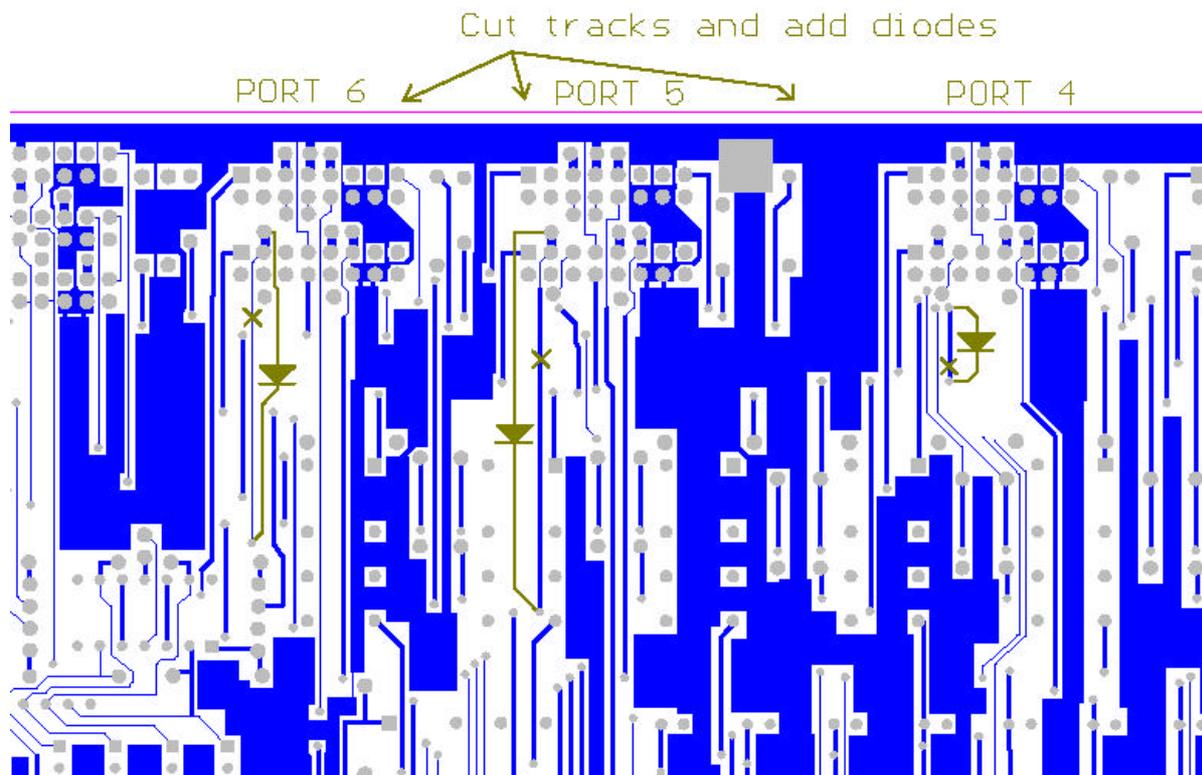

Fig 3.
11. On the bottom of the A800-SIM3a PCB, cut the three tracks and add the three diodes as indicated in Fig 3. This isolates the Port 4, 5, & 6 RX Disable lines from each other and the system splitting circuitry. This is important if any of these ports need to have their RX Disable active for other purposes.